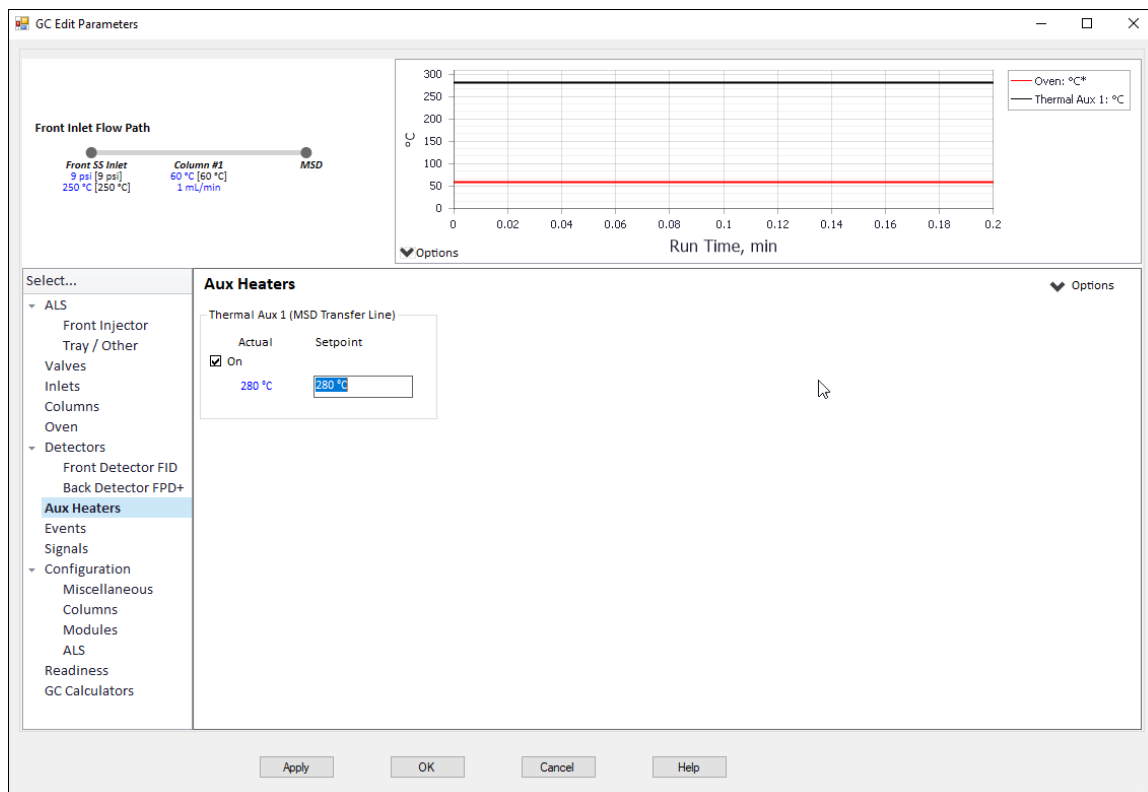

Figure 29 8890 GC edit parameters window
- 2 Click **Aux Heaters** to edit the interface temperature. (See **Figure 29**.)